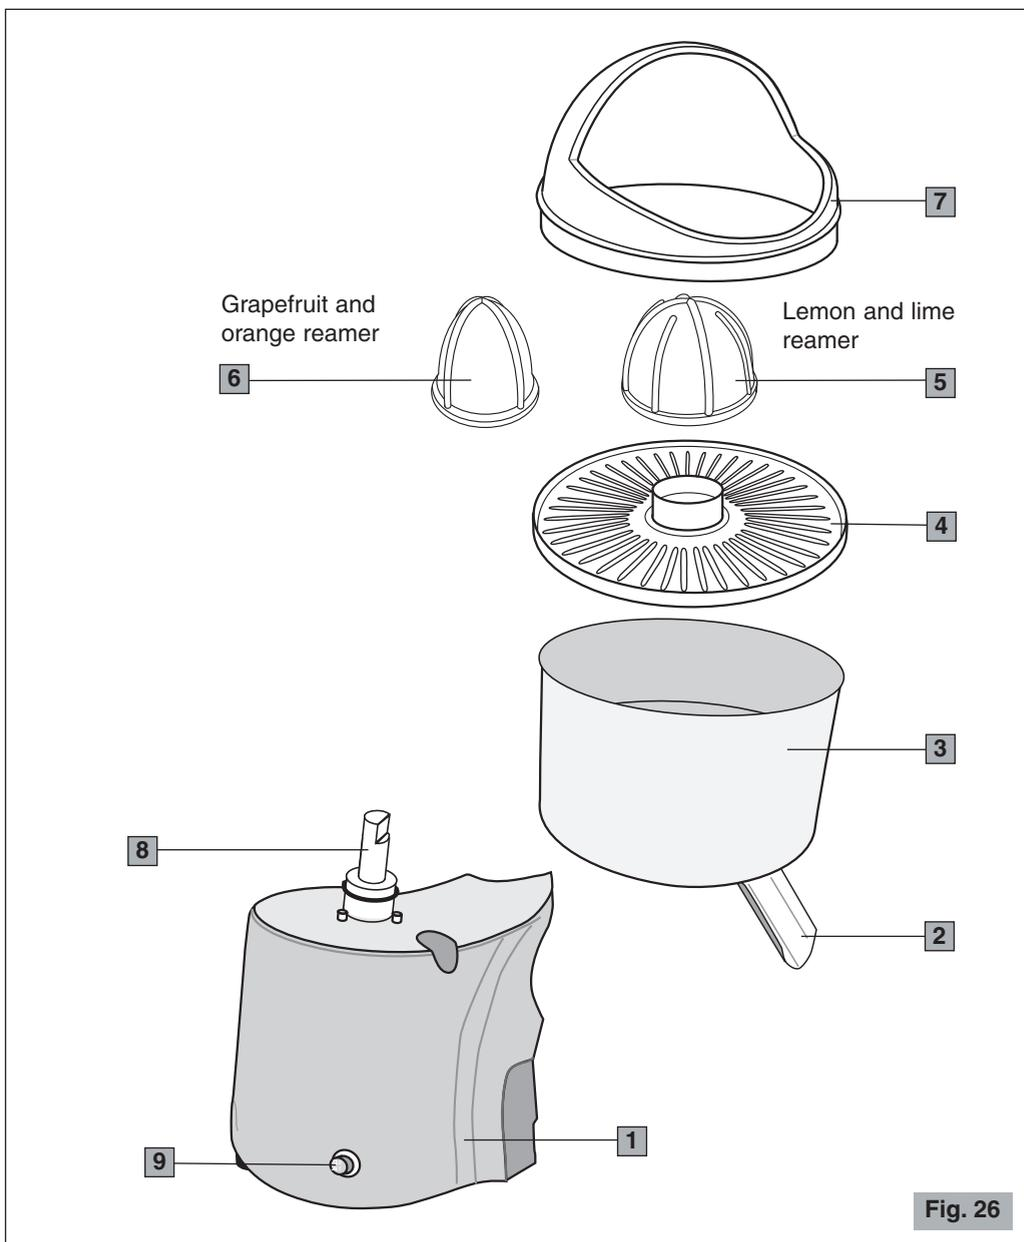

Fig. 25
Main parts (Fig. 25 - Fig. 26)
Automatic model (Fig. 25)
- !** **Before first use:** rinse all of the parts that will have contact with food in running water i.e.: spout, juice container, reamers, strainers, splash retainer, splash cover, cones (see Fig. 25 and Fig. 26).